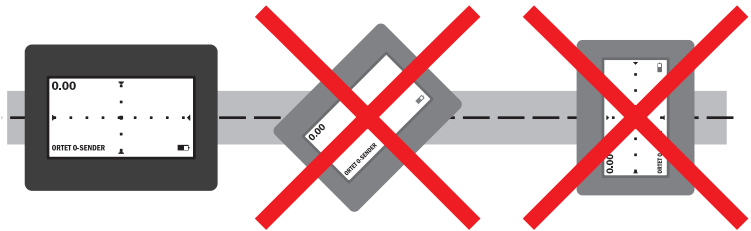

Fig. 48: **MAX CAMERA** locating mode - receiver aligned correctly above the line (left)
4. The receiver must be correctly aligned to determine the depth (fig. 48). Turn the receiver so that the display is parallel to the line with the sonde.